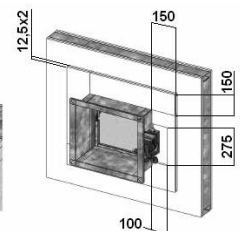

FIG.6
- 8 - Reinforce the walls with a double layer of plasterboard panels (length = 150 mm + nominal damper size / width = 150 mm / thickness = 12,5 mm) on both sides of the damper, making sure to create a suitably sized compartment in the external panel to house the control unit. (fig.6)